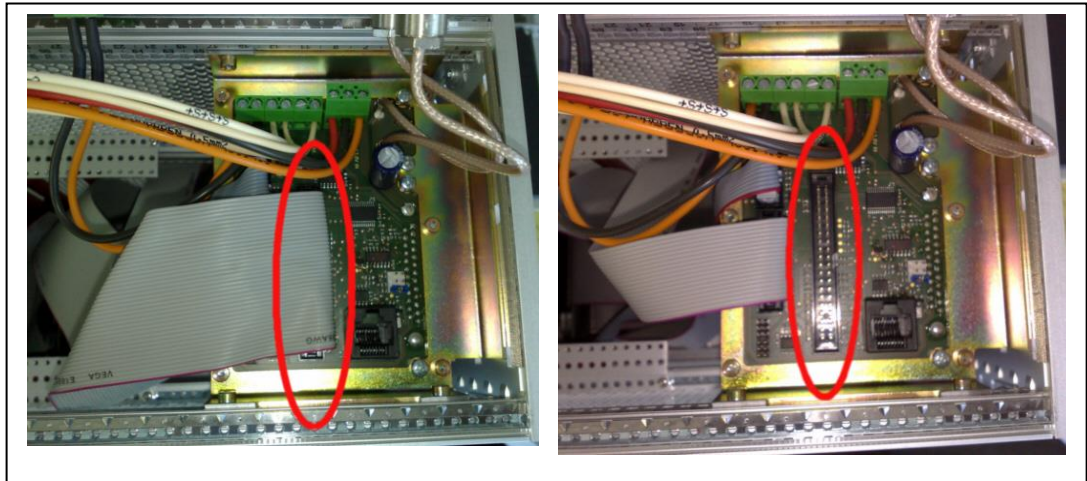

Figure 18: Unplugging the wide ribbon cable from the interface print on the TRx module
7. Carefully tilt the back panel downwards. Unplug the old wide ribbon cable (connection from the SC card to the TRx module) connected to the interface print of the TRx module (see Figure 18).